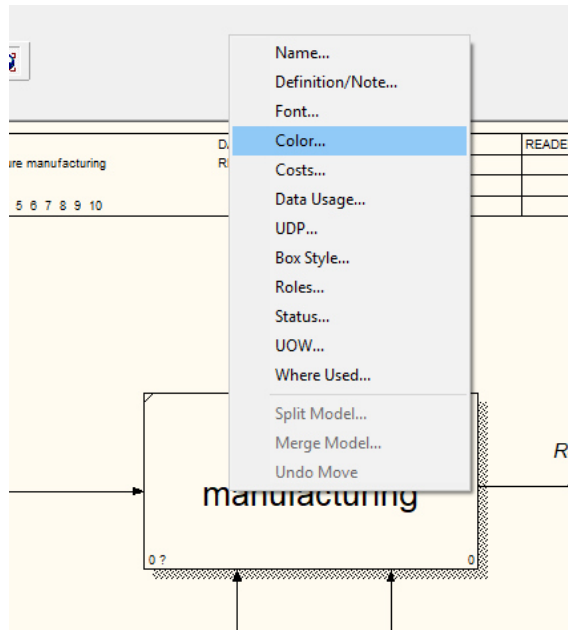

Fig. 1.20. The context menu
1. You can change the color of the text using the context menu command **Color** (fig. 1.20):